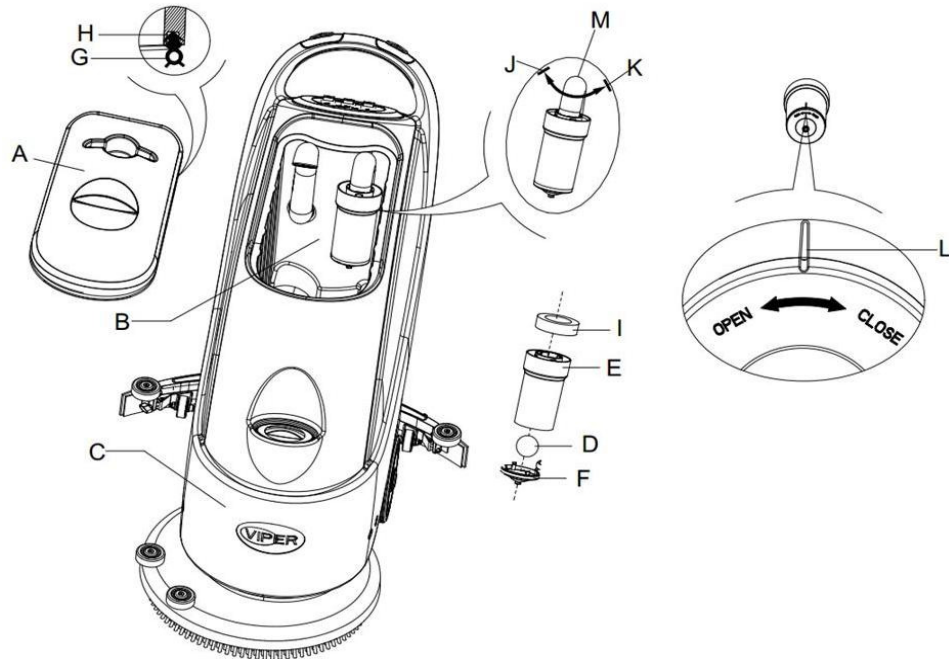

Figure 16
2. Press the power switch (41) to the position “O” to turn off the machine.
3. Open recovery tank lid (A, Figure 16), and take off the float device (36) from recovery tank.
4. Use pure water to clean recovery tank lid (A), the tank (B and C), and the float filter support frame (E). Through the Recovery tube (15), drain all the water from the water tank.
5. If necessary, following the symbols “Open” and “Close” as shown in Figure 16, open the bottom lid (F) of the float filter and clean the float (D), float filter support frame (E), and the filter sponge (I). After cleaning, fix the float onto the float filter support frame (E), and then align the mark groove (L) of the bottom lid (F) of the float filter with the mark groove (L) of the float filter support frame (E). Turn the bottom lid (F) of the float filter tight, and fix the filter sponge (I) onto the float filter support frame (E), and then onto the Vacuum tube (M).
6. Check the soundness of the sealing ring (G) of the water tank lid.
If necessary, the sealing strip of the water tank (G) may be taken out from the groove (H) and changed. When assembling a new water tank sealing strip, as shown in Figure 16 below, install the connector to the middle section of the rear part.
7. Check if the receiving surface of the sealing strip (G) is intact and seals adequately.
8. Close recovery tank lid (A).